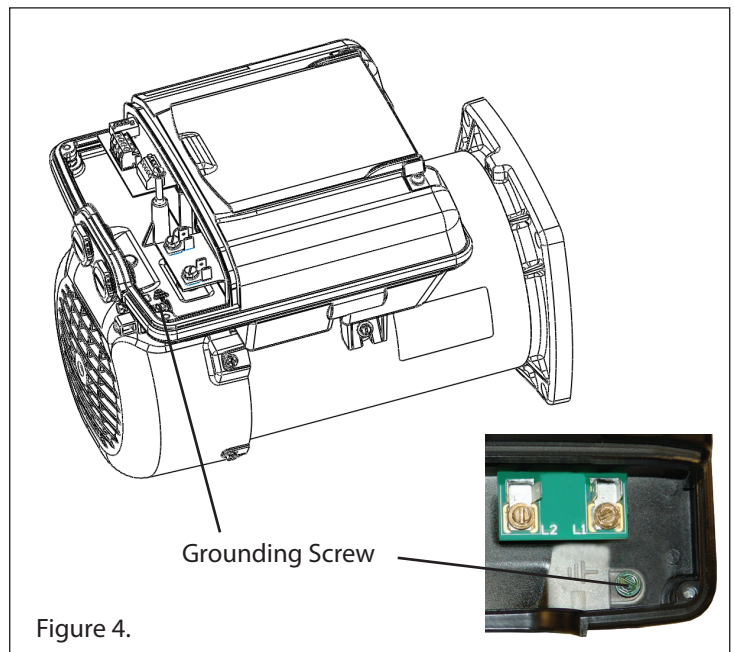

Figure 4.
6. Permanently ground the motor using the ground screw located on the inside rear of the controller interface, see figure 4. Use the correct wire size and type specified by the current local government. Be sure the ground wire is connected to an electrical service ground.